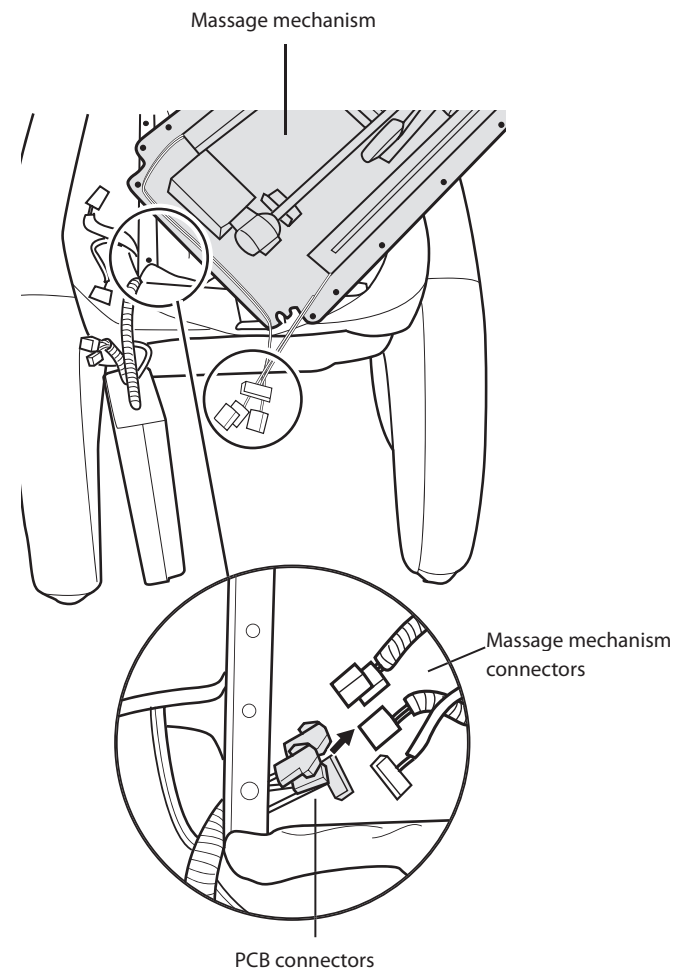

Fig.9
3. Feed the PCB box cable harness that contains four connectors underneath the backrest frame, then connect the four connectors to the corresponding connectors on the massage mechanism (Fig.9).